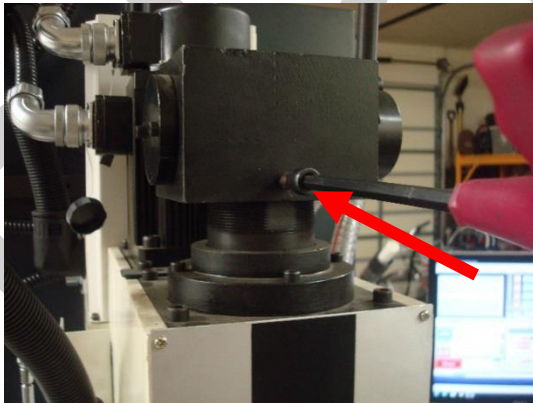
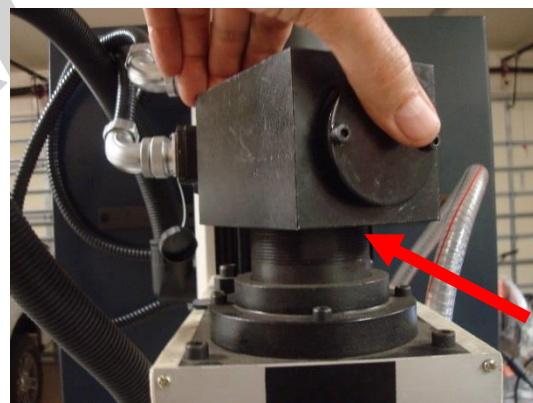

Figure 9-6
Figure 9-5
- 4) The fourth method for adjustment of LDB is the raising or lowering of the LDB head block itself (Figure 9-6 and Figure 9-5). When the LDB block is backed off from rubbing on the spindle, there should be about 20-30 degrees of lever movement before it contacts the spindle. If there is not enough stroke available in the handle, loosen the set screw on the draw bar head and rotate the LDB head block by +/- one turn to fine tune it. Recheck the degrees of lever movement and continue to adjust the LDB head block until the desired results are achieved. Lock the set screw and recheck the alignment.